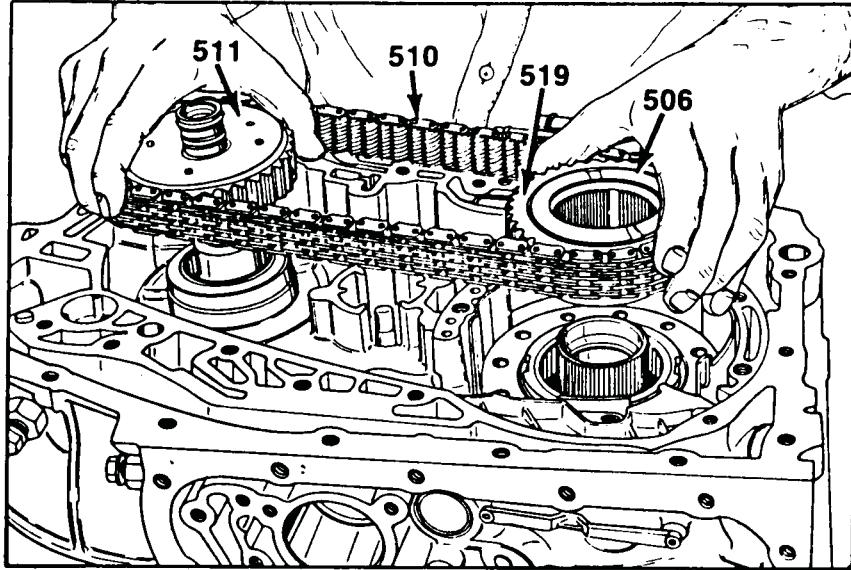

Figure 89
4. Install chain and sprocket assembly into position as shown in Figure 89. Black link must be up.